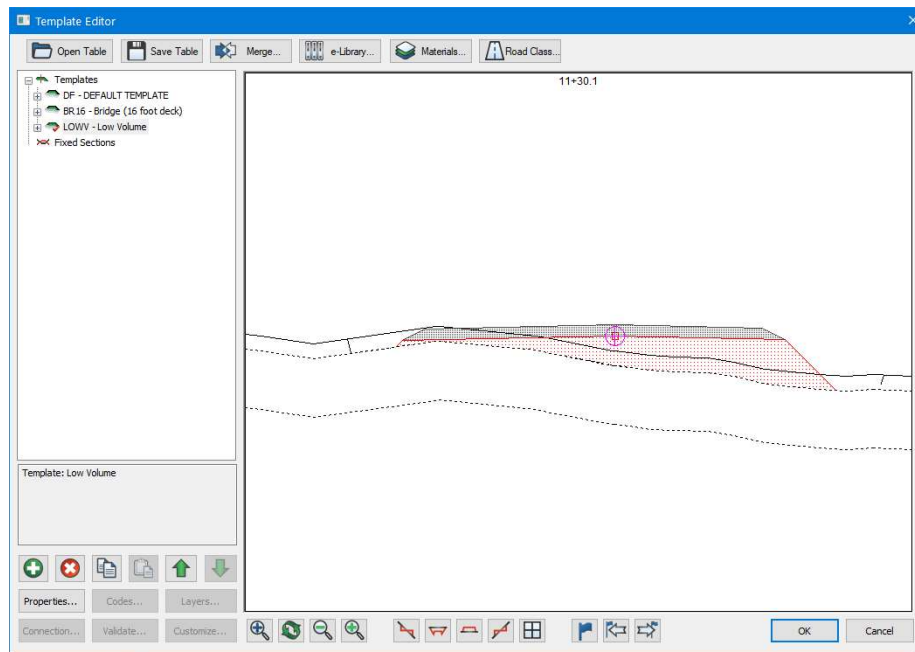

Figure 16-1: Template Table Editor Dialogue Box
2. *Home* | *Templates*, to open the *Template Table* editor shown in Figure 16-1.